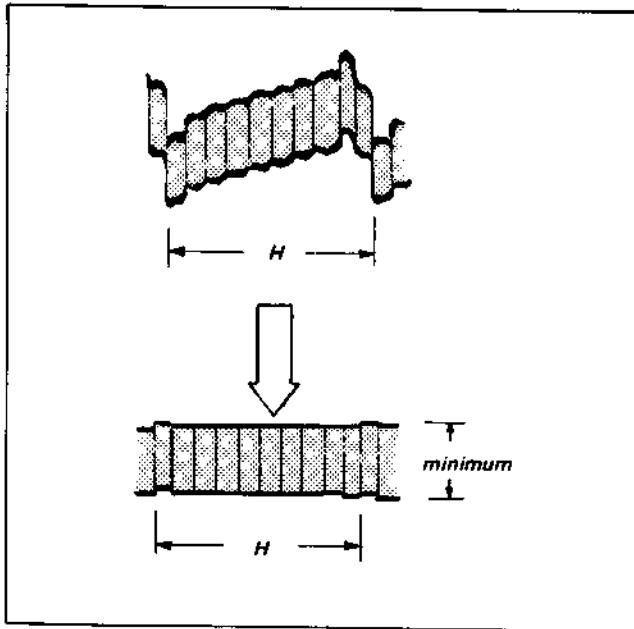

Fig. 4-51.
- (1) Receive the colour bar signal.
- (2) Connect the oscilloscope to CP3.
- (3) Adjust T104 so that the leakage of the video signal is minimized. (see Fig. 4-51).